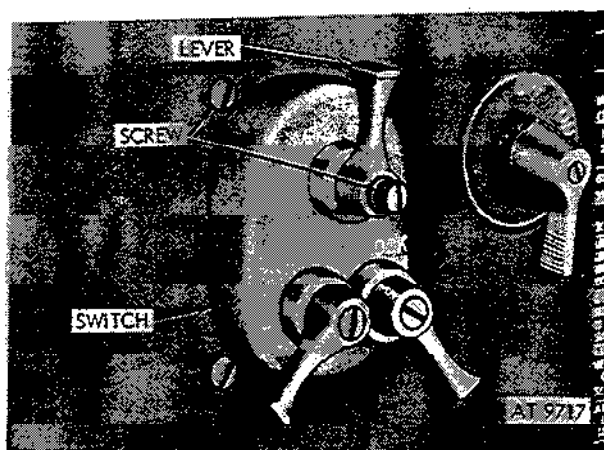

Figure 2-277. Remove lighting switch from dash panel.
(1) Remove retaining screw, lockwasher, and flat washer. Remove light switch top lever and flat washer (fig. 2-277).
(2) Remove four screws and lockwasher securing light switch to dash panel (fig. 2-277).